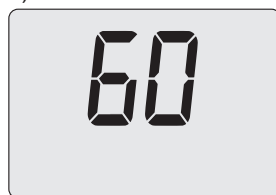

Figure 5.49
- Press 16 (Figure 5.46) to show the value of parameter P03 on the LCD display (Figure 5.49).